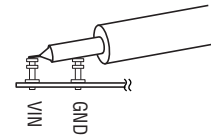

Figure 2. Scope Probe Placement for Measuring Input or Output Ripple
**NOTE:** When measuring the input or output voltage ripple, care must be taken to avoid a long ground lead on the oscilloscope probe. Measure the input or output voltage ripple by touching the probe tip directly across the  $V_{IN}$  or  $V_{OUT}$  and GND terminals. See Figure 2 for proper scope probe technique.